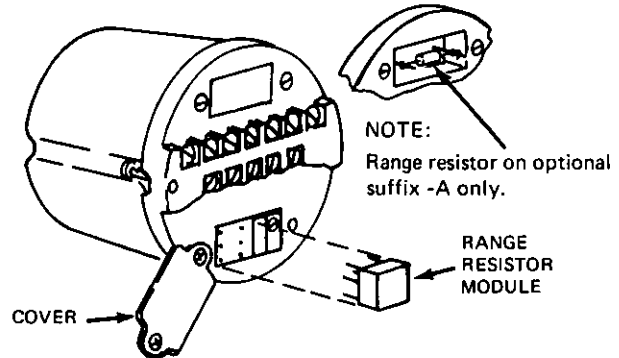

Figure 27.
For transmitter with optional Suffix -A (Pure Water Automatic Temperature Compensation) range resistor must also be replaced (see Figure 27). See Parts Lists PL 611-012 for applicable numbers for range resistor and range resistor module.
2. Remove the right screw from the range resistor module cover (use a small screwdriver). Loosen the left screw. Move the cover down to expose the range resistor module (see Figure 27).